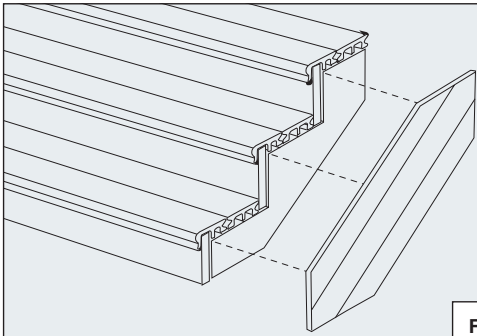

FIG.10g
- Cladding can also be cut into short lengths and installed horizontally or vertically to match the stringer outline. Consult local building codes for allowable spaces under stair railings. (REFER TO FIG.10g)